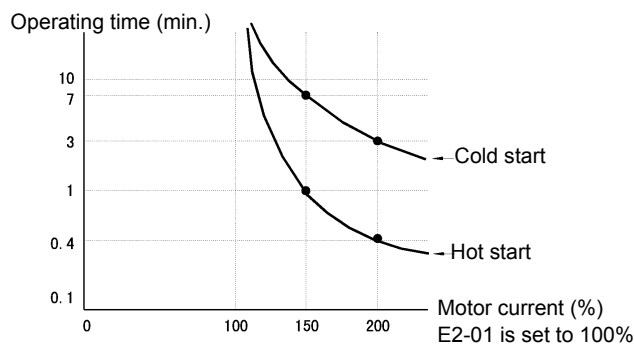

Fig 6.55 Motor Protection Operation Time
*Fig 6.55* shows an example of the characteristics of the electronic thermal protection operation time (L1-02 = 1.0 min., operation at 60 Hz, general-purpose motor characteristics, when L1-01 is set to 1)